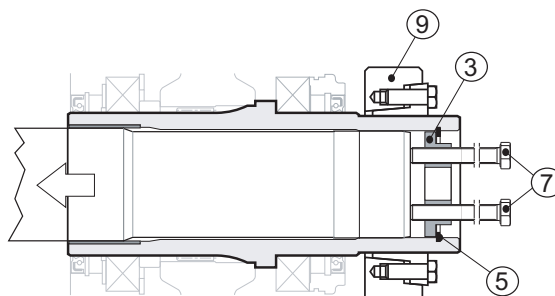

Fig. 26
Insert 2 bolts (pos. 7) into the two threaded holes on the end plate (pos. 3) and screw them until they touch the machine shaft (pos. 1). Now give them alternately one full turn each (see Fig. 26 (p. 30)).